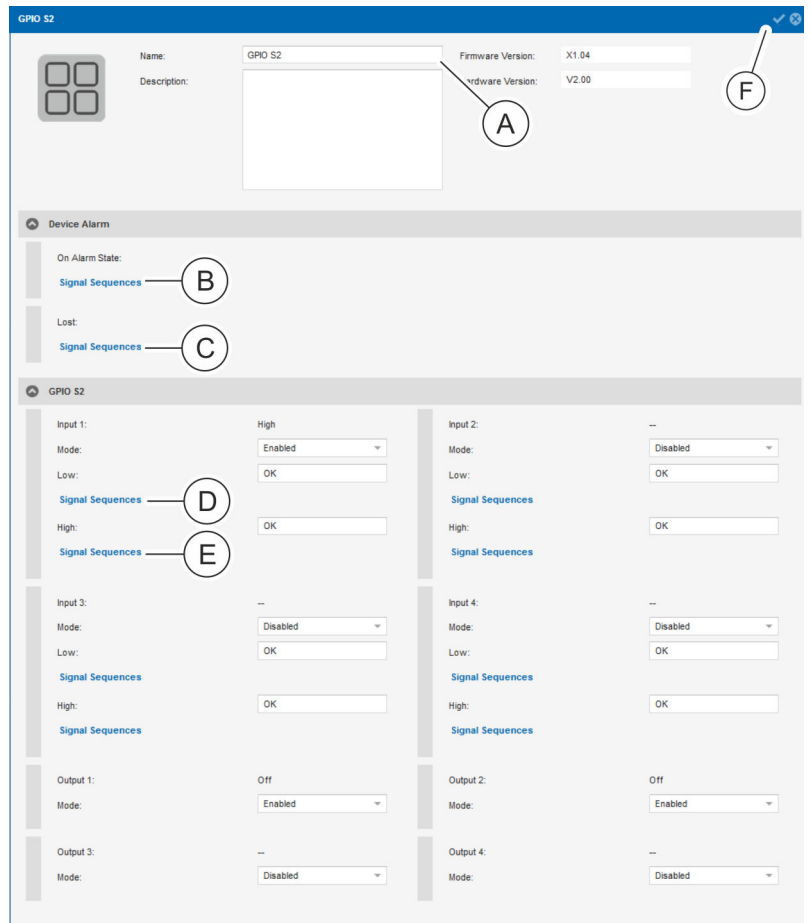

Fig. 130: “Status” menu – “Sensors” tab (detail view)
6. ➔ If necessary, change the name of the selected GPIO module and, if necessary, add a description (Fig. 130/Ⓐ).
7. ➔ If necessary, assign a signal sequence for the corresponding low signal by clicking the “Signal Sequences” button (Fig. 130/Ⓔ).
11. ➔ If necessary, assign a signal sequence for the corresponding high signal by clicking the “Signal Sequences” button (Fig. 130/Ⓕ) (analogous to steps 8 to 10).
12. ▶ If necessary, configure a signal sequence in the “*Device Alarm*” area for “*Lost Alarm State*” and “*OK Alarm State*”. To do so, click the “*Signal Sequences*” button (Fig. 130/© or ©).
14. ▶ Adopt the configuration by clicking the *Save* button (Fig. 130/©).